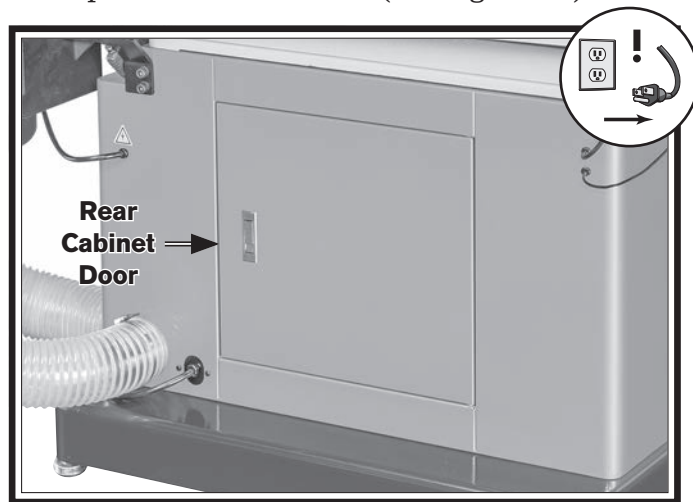

Figure 46. Location of rear cabinet door.
3. Open rear cabinet door (see Figure 46).